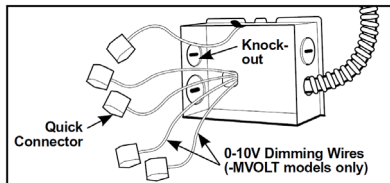

Figure 9
Step 2. Remove wiring box cover. Remove the appropriate knock-out(s) to accommodate the type of electrical service to be used/allowed by your local electrical code (Figure 9)